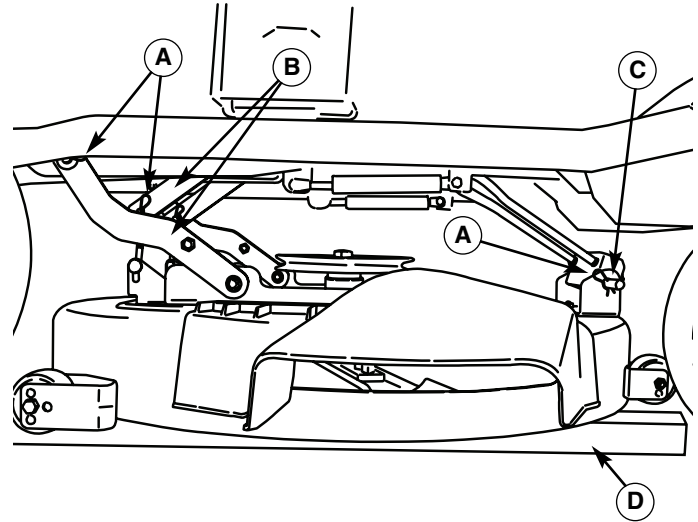
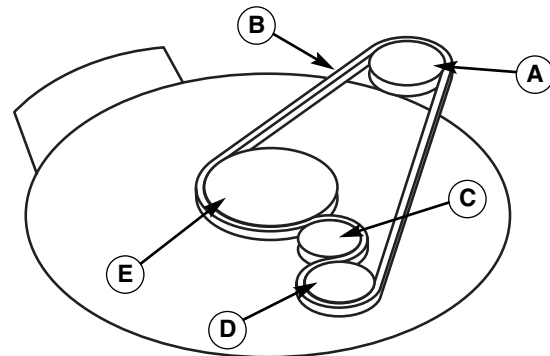

Figure 10. Mower Hitch Components - 33" Decks
Figure 11. Mower Belt Routing - 33" Decks
3. Pull the back-side idler pulley (C, Figure 11) forward to release belt tension. Remove the mower belt from engine PTO pulley (A).
6. Place 4x4 wood blocks (D, Figure 10) under the front and rear lip of the mower deck to securely support it.
9. Remove the hair pin clips (A) securing the rear mower lift arms (B) and the front hitch rod (C) to the mower deck.
11. Remove the front hitch rod (C) from the front hitch brackets.
1. Slide the mower deck under the right side of the rider. Align the holes in the front hitch brackets, and insert the front hitch rod (C, Figure 10). Secure with hair pin clip (A).
2. Connect the rear lift arms to the mower deck. Secure with hair pin clips (A).
4. Use the cutting height switch to raise the mower until it is no longer resting on the 4x4 wood blocks (D).
5. Turn the ignition switch OFF and remove the key. Remove the 4x4 blocks (D).
6. Release mower belt tension, and install the belt as shown in Figure 11.